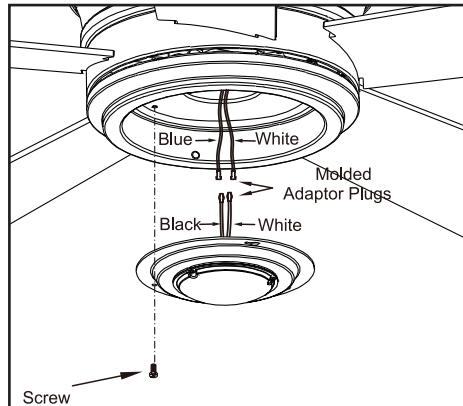

Figure 14
2. Push the light kit pan up to the fan motor assembly so that the two loosened screw heads fit into the keyhole slots. Turn the light kit pan clockwise, tightened the screws. Re-install the screw that was removed in step 1 and tighten firmly. (Figure 14)
3. Remove one screw from the light kit pan and loosen, but do not remove the other two screws. Connect the wires from the light kit fitter assembly to the wires from the fan motor assembly by connecting the molded adaptor plugs together. Carefully tuck all wires and splices into the switch cap. (Figure 14)
4. Push the light kit fitter assembly up so that the two loosened screw heads fit into the keyhole slots. Turn the light kit fitter assembly clockwise, tighten the screws. Re-install the screw that was removed in step 3 and tighten firmly. (Figure 14)